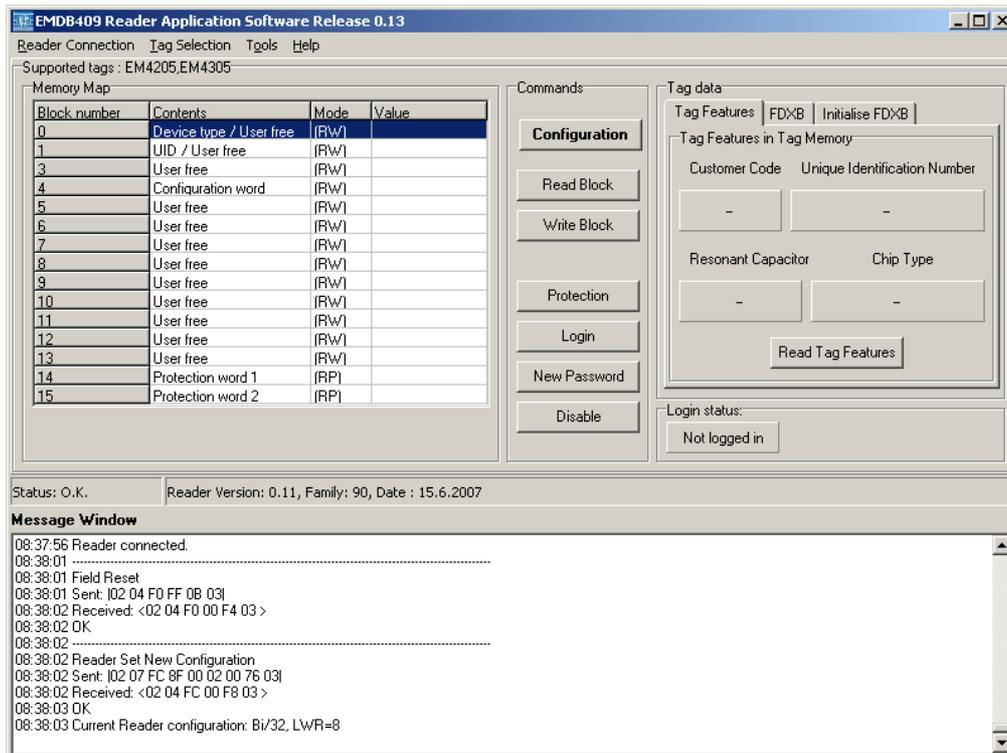

Figure 9 EM4205/EM4305 communication frame
2. Enter Current password value (see Figure 9 Passwords values)